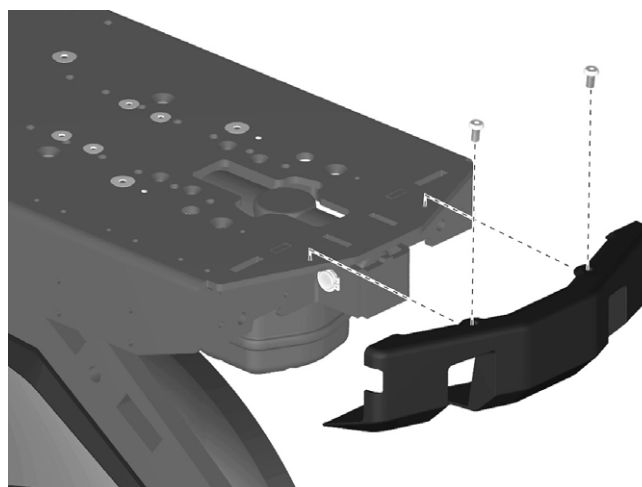

Figure 104. The pinch guard is assembled with four screws.
7. Remove the four screws holding the pinch guard on the top plate. See fig. 104.